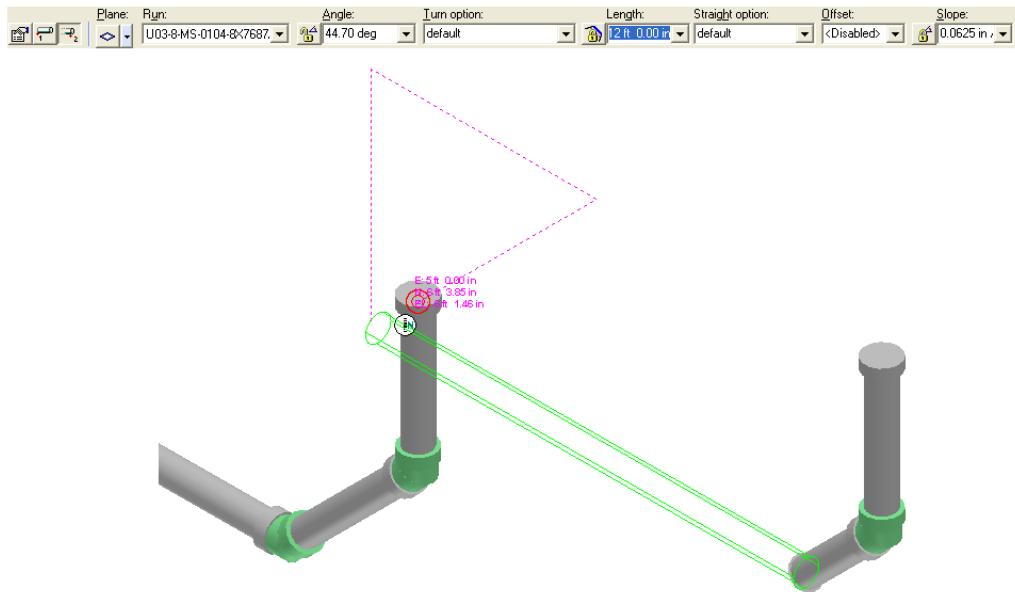

Figure 42: Routing the Pipe in the North Direction
76. Select the **Lock slope** option on the **Route Pipe** ribbon to constrain the routing to the minimum slope value and position the cursor point until SmartSketch displays an **N** glyph. This glyph indicates that you are going in the north direction, as shown in Figure 42. Click in the graphic view to accept the placement of the pipe.